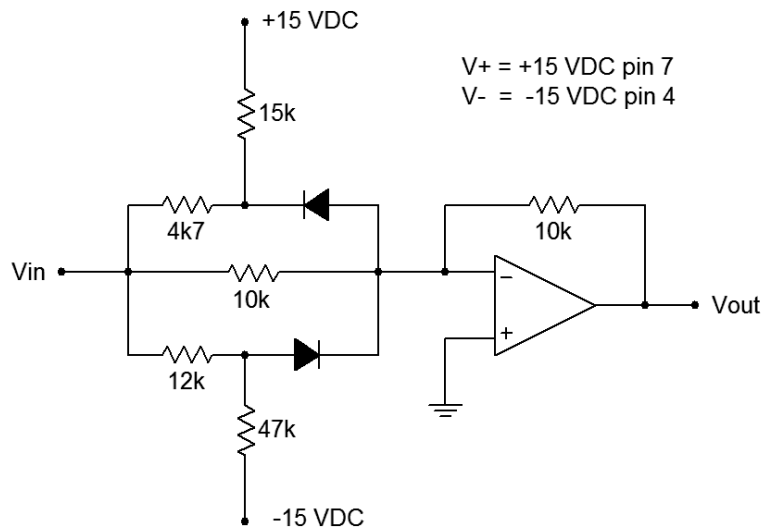

Figure 1
1. Calculate the break-points and slopes for the input/output transfer curve of the circuit in Figure 1. Record these values in Table 1.
2. Assemble the circuit of Figure 1.